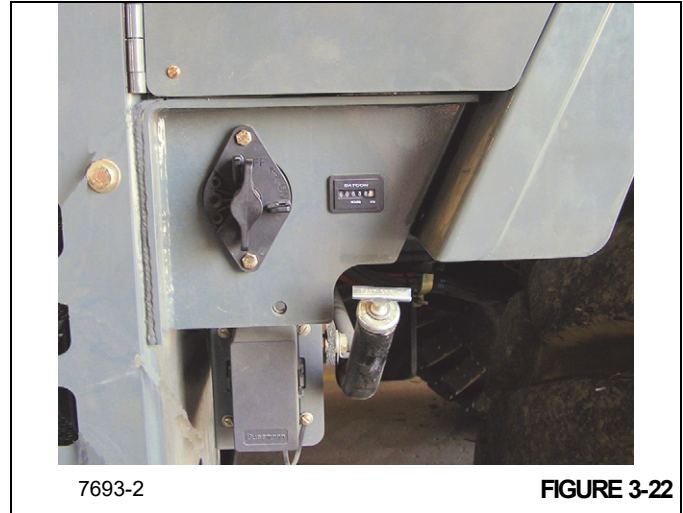

FIGURE 3-22
13. Turn Battery Disconnect to OFF position (shown) if machine will be inactive for over 24 hours (Figure 3-22).